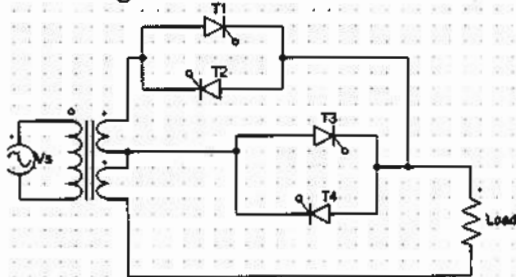

Figure 3. Controller circuit for question 10.
10. The circuit shown below in figure 3 is that of a